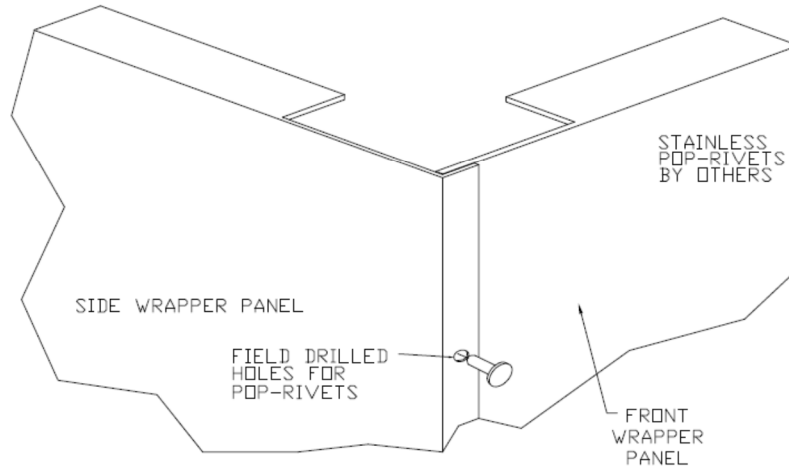

Figure 14D
4. Locate front wrapper panel. Position its lower 1/2" flange under front channel on hood and slide panel into position, so that the end of front panel is behind the 90 degree bend of the side panel. **See Figure 14D: Front Corner Assembly.** Once in place, press fit the lower flange of the front panel into the front channel in order to have wrapper face flush with the front of the hood. Screw or pop-rivet bottom of front panel to the front channel.
5. Drill appropriate holes and rivet front to side wrapper panel. **See Figure 14D: Front Corner Assembly.**